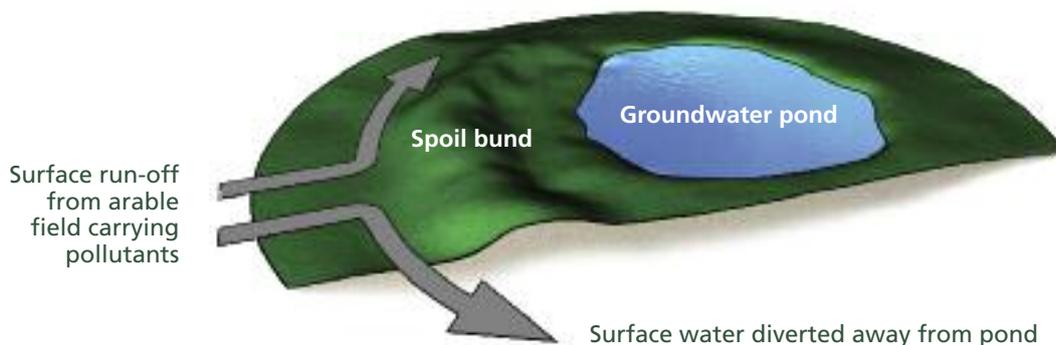

Figure 4. To prevent polluted surface water entering a groundwater-fed pond, create bunds to divert the water away from the pond.
- Where groundwater-fed ponds are created in agricultural landscapes, low banks made from excavated spoil can be used to create a barrier to redirect polluted surface water coming from arable fields away from the pond. (Figure 4).